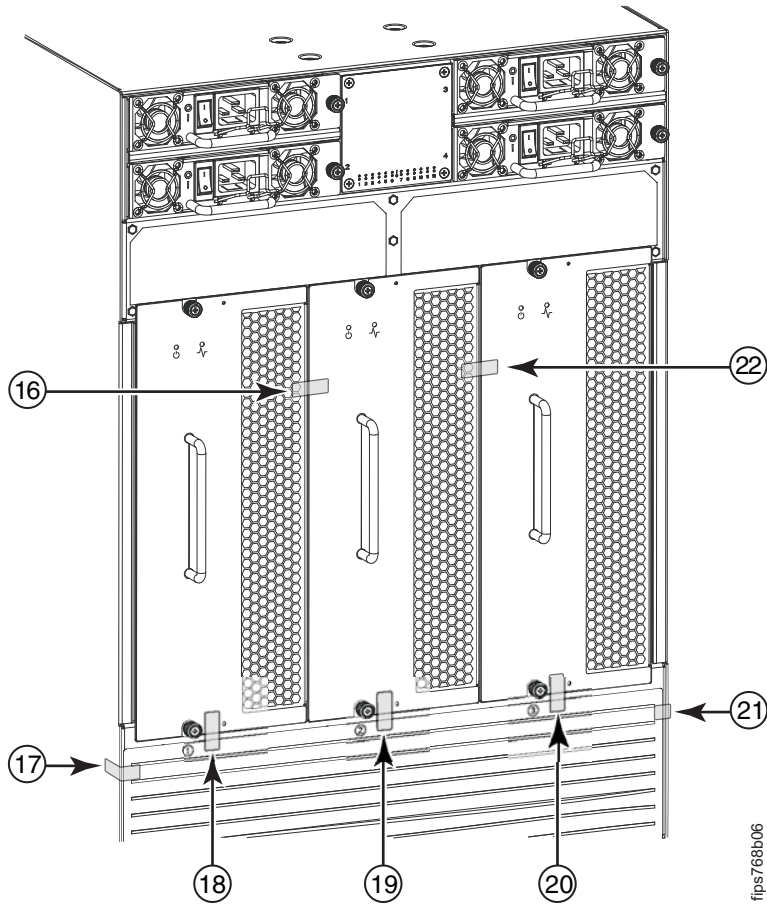

Figure 32. Seals applied to the nonport side of the 2499-384
Figure 32 on page 32 shows the non-port side of the 2499-384. Refer to the figure when performing the procedure.
2. Apply one seal mounted horizontally that bridges the seam between each fan FRU. Two seals are required ( **16** and **22** in Figure 32). Ensure that the seal is firmly affixed to both sides of the seam.